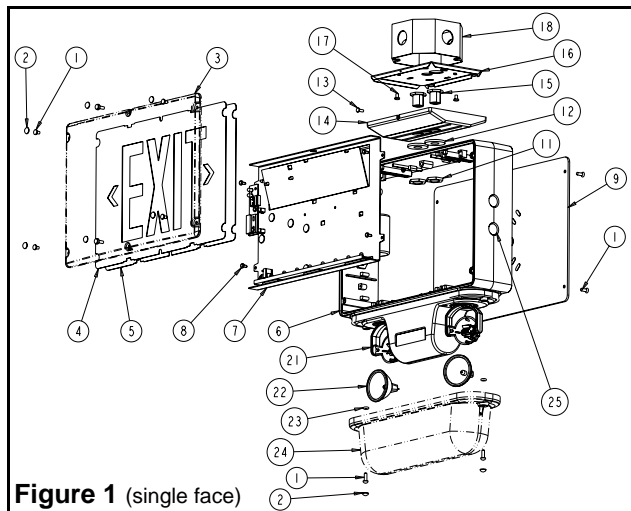

Figure 1 (single face)
- e. Make sure the securement screw is accessible (see fig.1 & 2 part # 13). Use existing screws in junction box to secure canopy backplate to the junction box.
- h. Determine which holes in the exit frame will be used for mounting (see fig.1,2 & 5). Support frame by two blocks of wood, maximum one inch apart. Strike knockouts with a hammer and screwdriver. Clear holes of burrs to allow proper assembly of nipple/wire assembly.